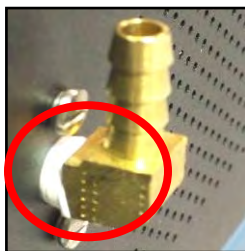

Figure 5. THREAD TAPE ON FITTING.
1. Before installing the fitting onto the back of the dehydrator, first apply some Teflon[®] thread tape (or compatible thread sealant) around the threads of the fitting you will be using. Refer to Figure 5.